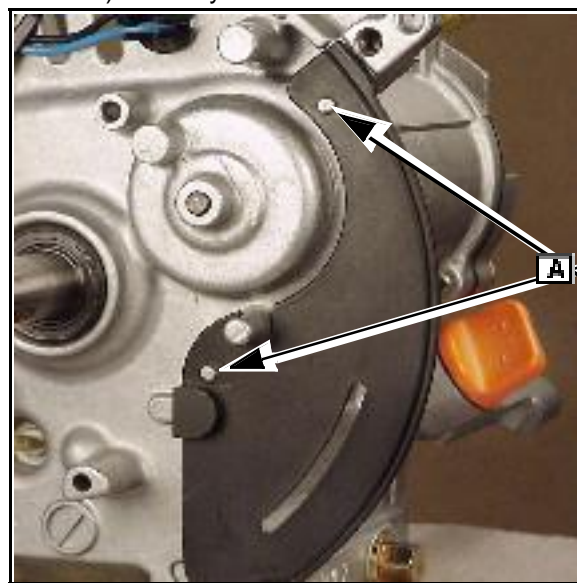

Fig. 3
3. Locate the rear baffle on the pins ([A] Fig. 3) of the cylinder as shown.